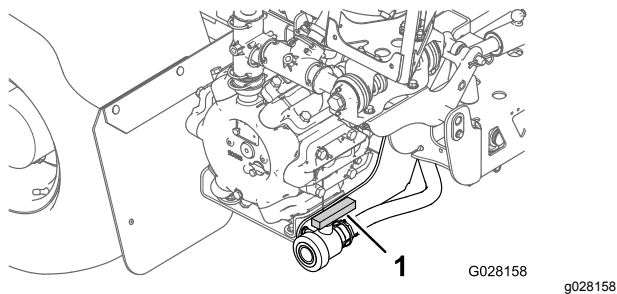

Figure 44
2. Locate the tank-drain valve on the rear of the machine (Figure 44).